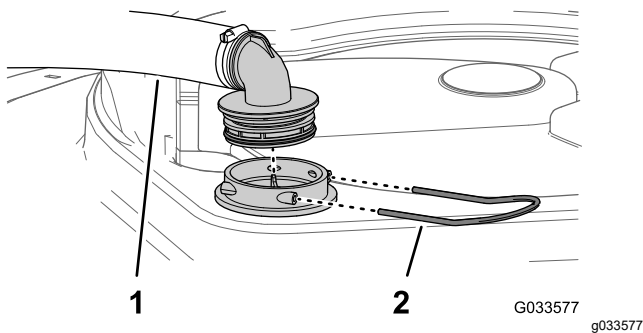

Figure 53
2. At the top of the sprayer tank, remove the retainer that secures the hose fitting attached to the large hose from the filter housing (Figure 53).
3. Remove the hose and hose fitting from the filter housing (Figure 53).